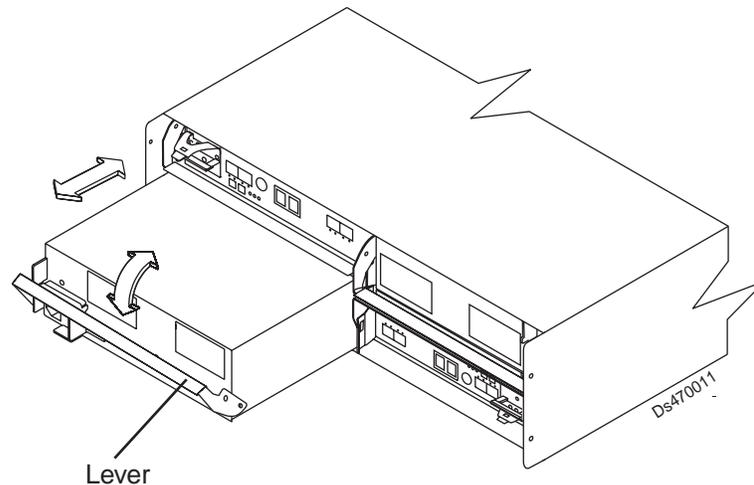

Figure 77. Replacing a power supply and fan unit
Use the following procedure to replace a power supply and fan unit. Figure 77 on page 127 illustrates removing and inserting a unit.
11. Slowly pull the lever away from the chassis to remove the power supply and fan unit, as shown in Figure 77 on page 127.